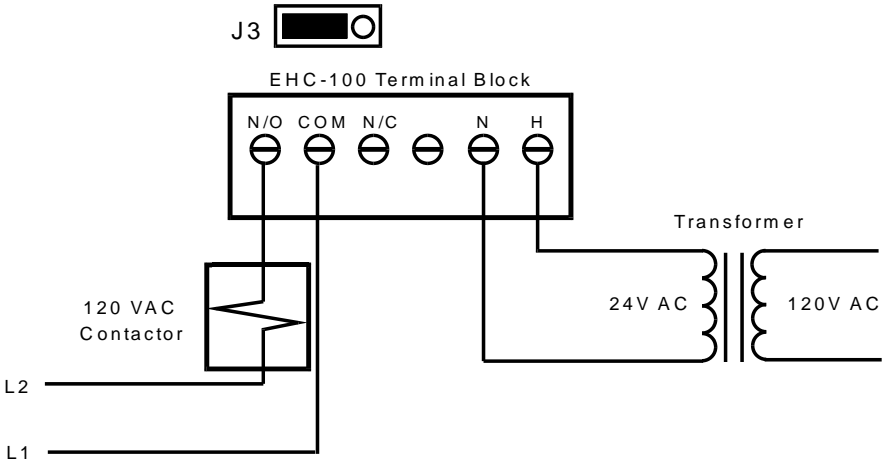

Figure 1: Humidification wiring with dry contacts
1. Make connections to the terminal block located on the unit. The controller can be wired for dry contacts or live contacts as per Figure 1 or 2, respectively. Note the position of the jumper on J3. Both of these diagrams show connections for humidification. Wire to the N/C terminal for dehumidification. The controller can operate on either a 24V DC or AC input.